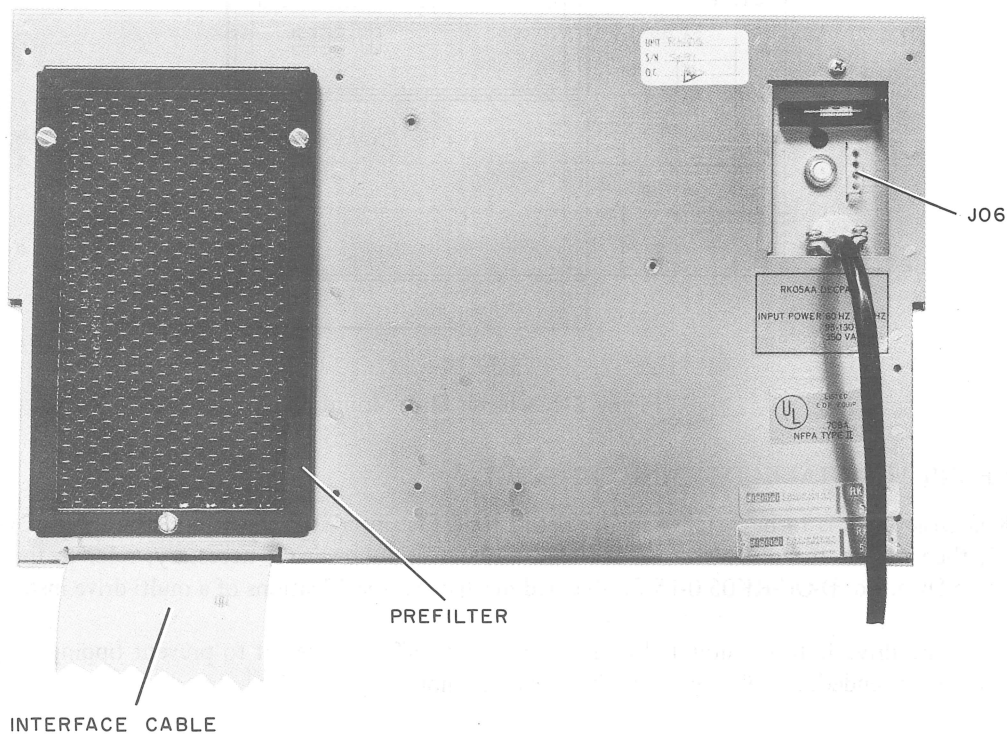

Figure 2-3 RK11C or RK11D Interface Cable Installation
7. When RK05 drives are "daisy-chained" with RK03 drives in a multi-drive installation, it is recommended that the RK05s be arranged consecutively at the controller end of the bus. This is done to avoid interruption of the AC LOW and DC LOW interface lines which are not carried by the RK03s. If this arrangement is not possible, any RK05s that are separated on the bus by RK03s, require a separate cable connection between J06 (Figure 2-3) of the RK05s.
8. When RK05 drives are "daisy-chained" with RK03 drives in a multi-drive installation, it is recommended that the RK05s be arranged consecutively at the controller end of the bus. This is done to avoid interruption of the AC LOW and DC LOW interface lines which are not carried by the RK03s. If this arrangement is not possible, any RK05s that are separated on the bus by RK03s require a separate cable connection between J06 (Figure 2-3) of the RK05s.
- a. Fold the interface cables and route them through the slot just below the prefilter at the rear of the drive cabinet (Figure 2-3).